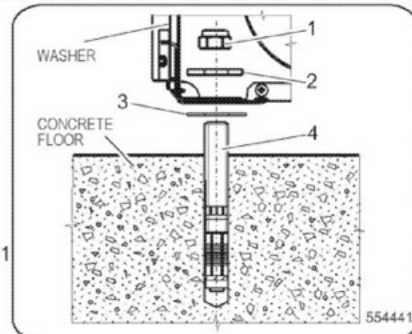

Figure 14 – Rigid-mount machines, Installation on floor
- The drum of rigid-mount machines is fixed to the frame. The floor and steel base (if used) underneath the machine **MUST** be stable enough to be able to absorb the dynamic loads which are created during the spinning sequence, see the values for each machine specified in table 1, 2. Therefore, M16 anchor bolts - pos.4 – see figure 14 and 15 and washers $\varnothing 60 / \varnothing 16.5 \times 6\text{mm}$ - pos.2 and M16 self locking nuts - pos.1 must be used so that the machine, the steel base (if used) and floor form one integral unit – see figures 14 and 15.
- Check that the machine is installed in a level and stable manner in all its corners. If necessary, level it up by means of stainless or galvanised spacing washers, see figures 14, 15, 17, pos.3 (washers are not supplied with the machine) inserted in between the machine frame and the floor – see figures 16, 17. The dimensions of the spacers must be the same as the dimension of the machine frame in the place where the anchor bolts are located – 80x80mm.